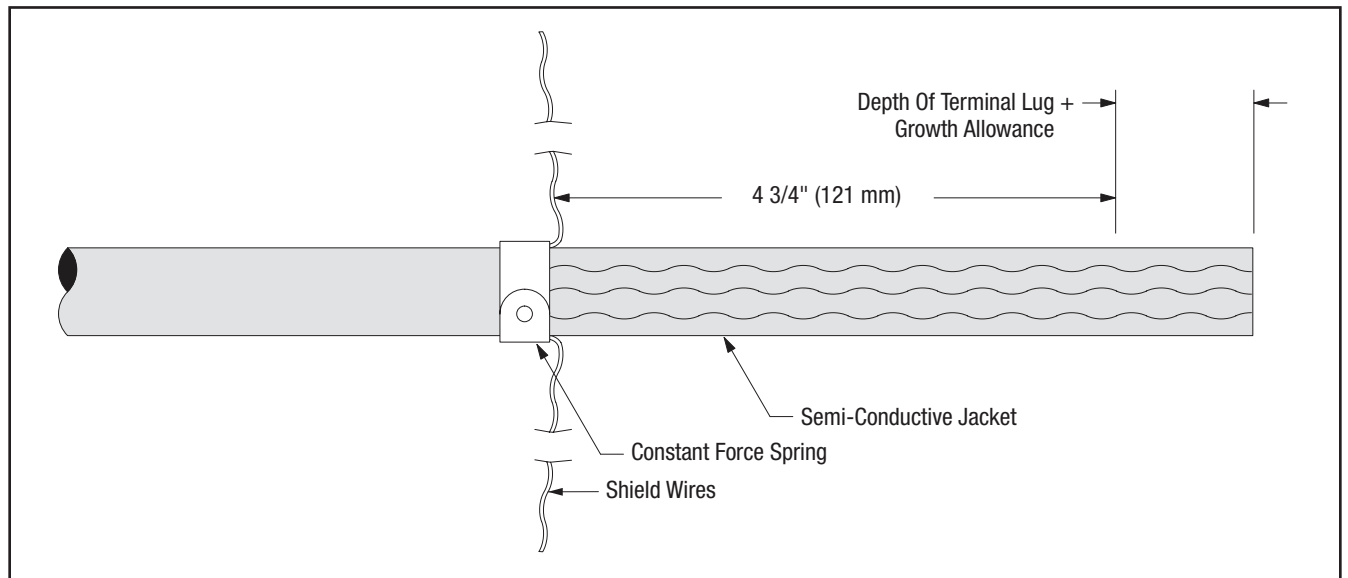

Figure 15
12.2 Prepare cable using dimensions shown in *Figures 15, 16 and 17*. **BE SURE TO ALLOW FOR DEPTH OF TERMINAL LUG.**
12.3 Install constant force spring as shown in Figure 15. Pull shield wires through semi-conductive jacket to leading edge of constant force spring (Figure 15).